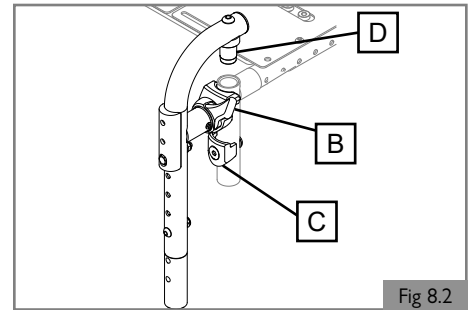

Fig 8.2
8.2 Swing in/out footrests (Fig 8.2)